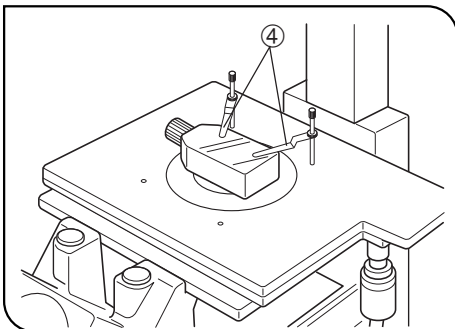

Fig. 68
4. Screw the IX-SCL stage clips ④ into the threaded holes provided on the stage top surface. (Fig. 68)